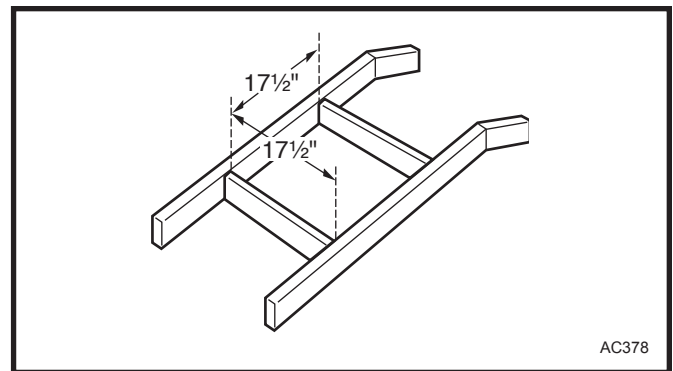

Fig. 1 Framing the chimney hole.
2. Frame the 17½" x 17½" roof opening using 2x4's or 2x6's. These dimensions are measured horizontally and do not vary with the roof pitch. (Fig. 1)